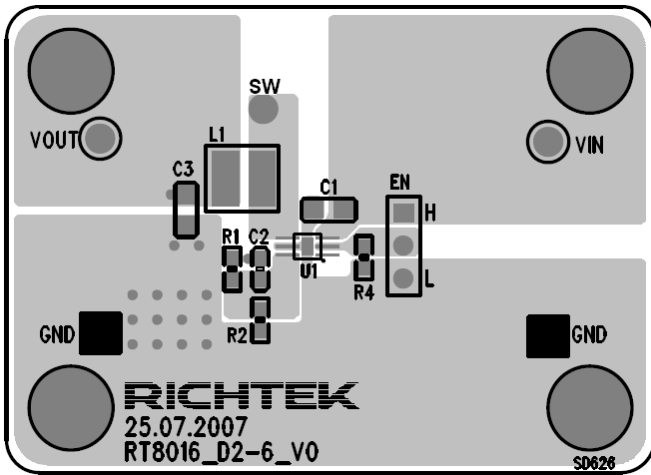
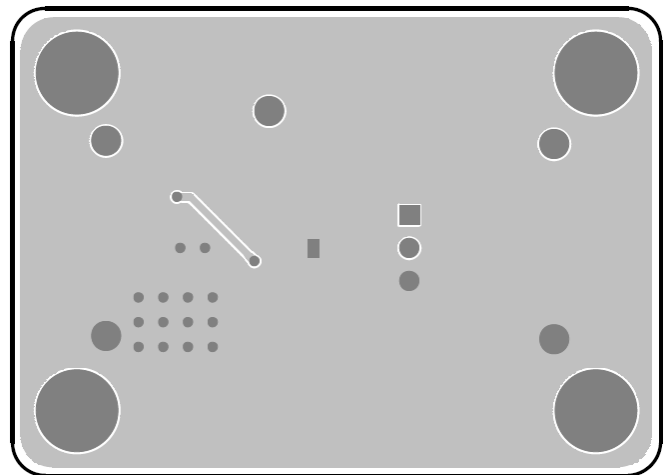

Figure 7. Top Layer
Figure 8. Bottom Layer
- An example of a 2-layer PCB layout is shown in Figure 7 to Figure 8 for reference.